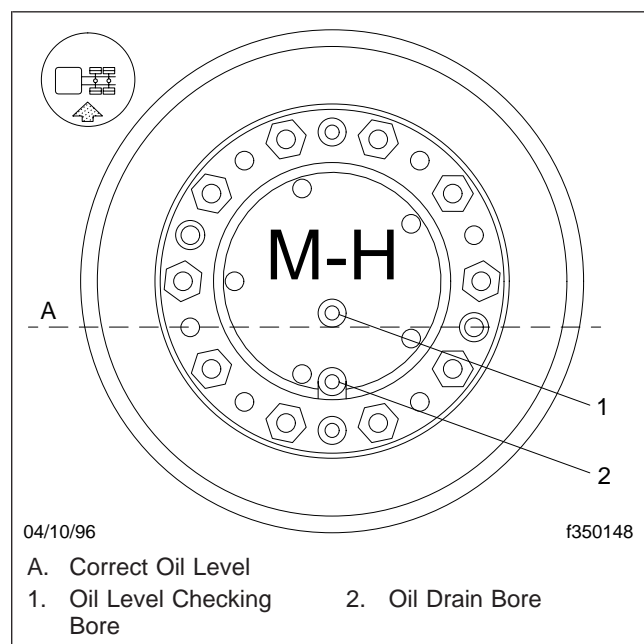

Fig. 7, All-Wheel-Drive Front Axle Hub, MT-17 Axles
- 2.1 The oil drain bore must be at the bottom in order to check the oil level. See Fig. 7.
- 3.2 If applicable, rotate each wheel until the oil drain bore is at the bottom, then remove the drain bore plugs and allow the oil to drain into a suitable container. See Fig. 7. If needed use a bent piece of sheet metal to direct the draining oil so it doesn't splash on the tires.